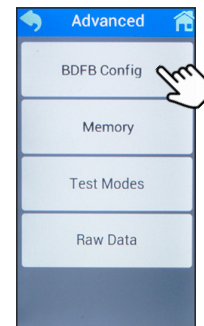

Figure 54. Advanced
- Step 3.** Select the BDFB Config button (see Figure 54).